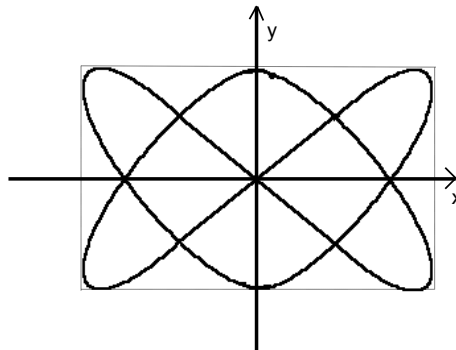

Figure.5
2.2. Figure 5 shows a Lissajous pattern observed on the CRT screen. Determine the frequency relationship between the signals applied to the X and Y inputs of the scope.